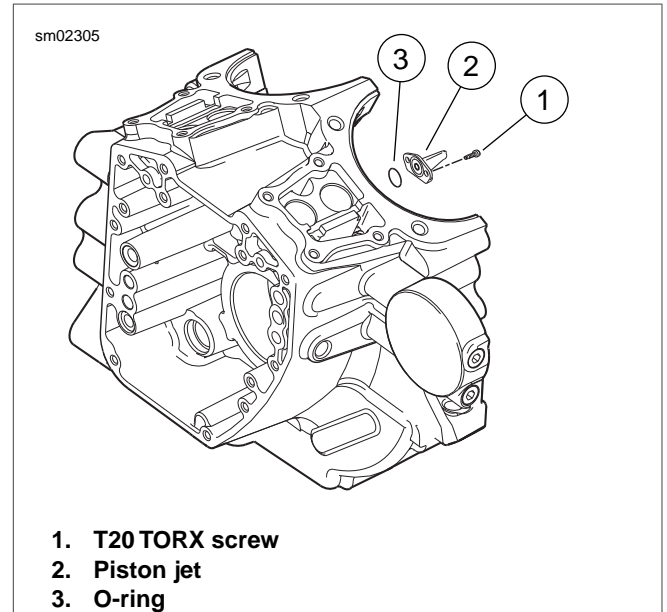

Figure 3-126. Piston Jets
1. See Figure 3-126. Remove two T20 TORX screws (1) to free piston jet (2) from crankcase.
2. Remove o-ring (3) from groove in mounting flange of jet. Discard o-ring.
1. See Figure 3-126. Apply a very thin film of clean H-D 20W50 engine oil to **new** o-ring (3) for piston jet. Install **new** o-ring in groove of jet mounting flange.
2. With jet pointed upward, start two T20 TORX screws (1) to secure piston jet (2) to crankcase. Tighten to 25-35 in-lbs (2.8-3.9 Nm).